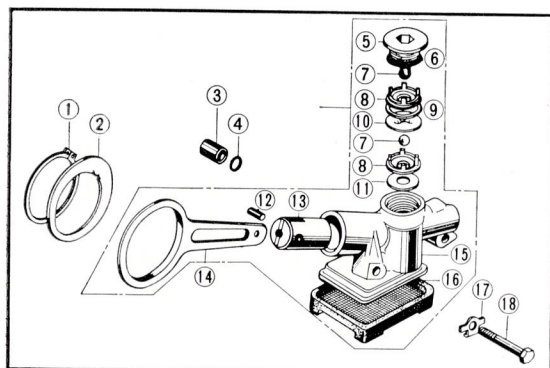

Fig. 3.83 Oil pump exploded view
- c. Before installing the oil pump, check to make sure that the  $8 \times 15$  O ring install around the pin at the pump is not missing or damaged. (Fig. 3.83)